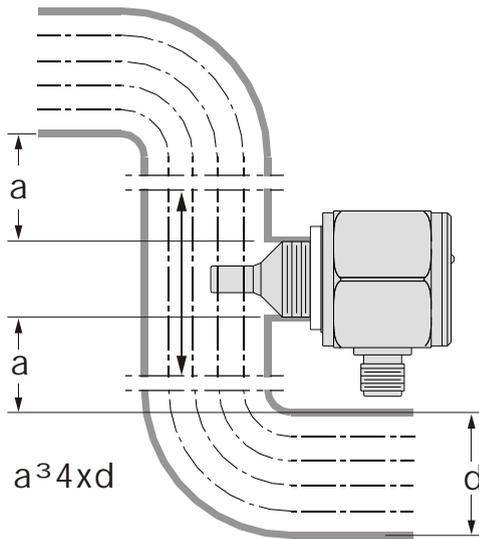

Fig. 1
1. "a" above and below the SP in diagram 1 has to be 4 times greater than its internal diameter of pipe. (Fig. 1)